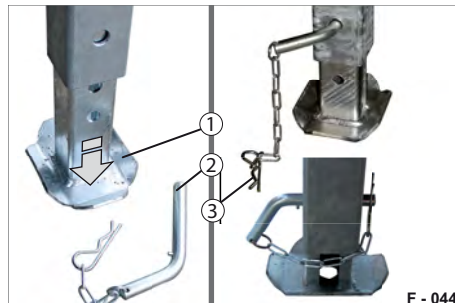

Fig. 60 Adjusting the levelling foot
- ▶ Remove the spring pin (Fig. 60/3) from the socket pin (Fig. 60/2).
- ▶ Place the levelling foot (Fig. 60/1) on firm ground and adjust the levelling foot downwards until it can still be located in the further hole.
- Adjust the levelling foot (Fig. 60/1) upwards and secure it with the socket pin (Fig. 60/2) and spring pin (Fig. 60/3).